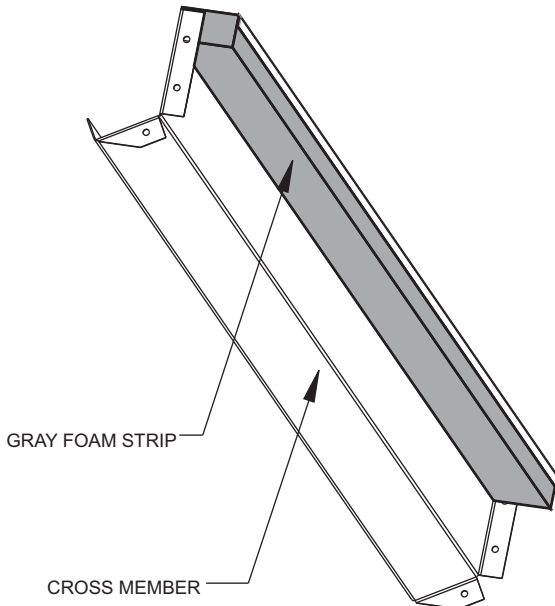

Fig. 20 — Adding Foam Strip to Cross Member
2. Add gray foam strip (provided) to cross members on bottom tray. See Fig. 20 for gray foam strip location.